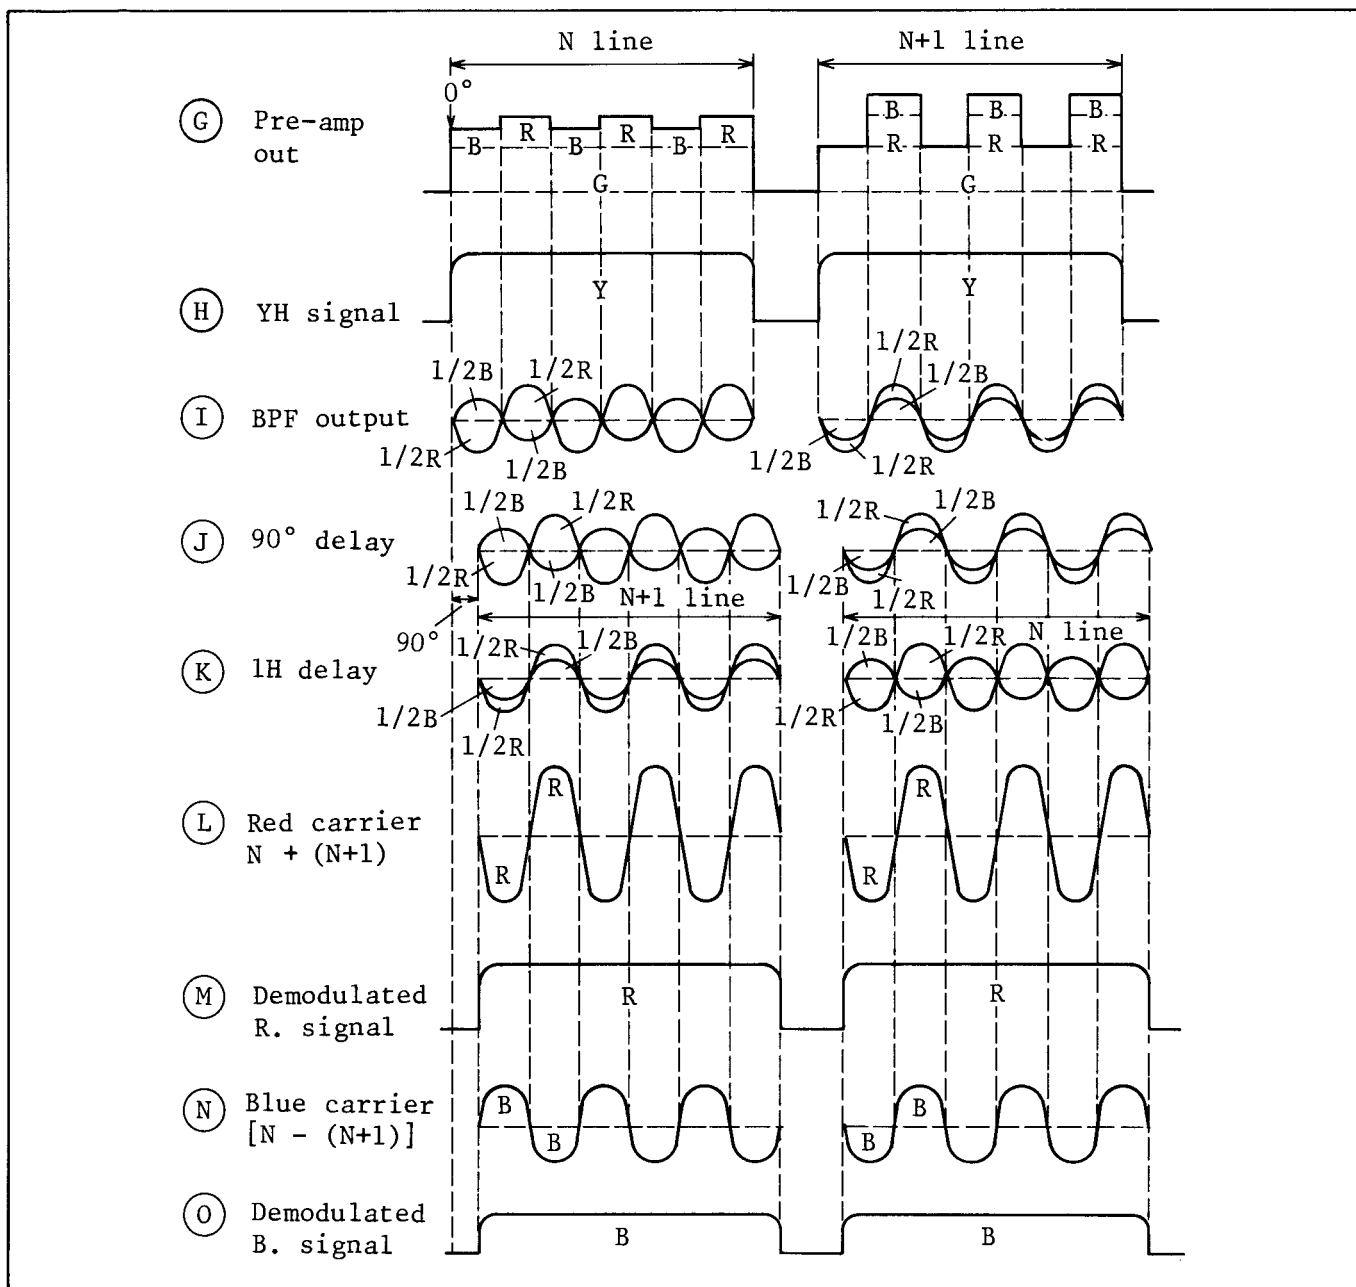

Fig. 13. Detection of Y, R and B. signals
The incoming light is thus converted by the integrated stripe filter into a signal which contains R and B signals modulated by 3.58MHz. This signal is sent to the pre-amplifier, where it is amplified (Fig. 13-(G)). The amplified signal G from the pre-amplifier is sent to a low pass filter circuit, which passes only the luminance (YH) signal (Fig. 13-(H)) making up the G signal. The amplified signal G is also supplied to the band-pass filter (BPF) whose center frequency is 3.58MHz, through which only the modulated signal 1 passes.